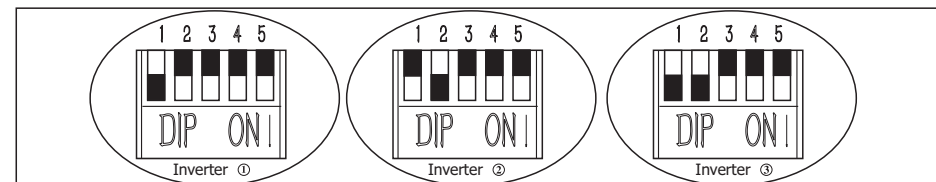

Figure 1
Step 2: On the bottom panel of inverter, there are 5 pins DIP switches, you can set it as follow Figure 1.